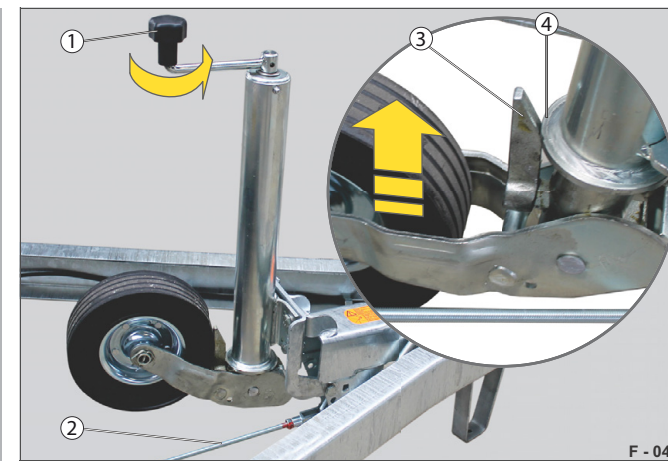

Fig. 16 Position for driving
- Crank the automatic jockey wheel up. Make sure that the brake linkage (Fig. 16 /2) is not blocked. The automatic jockey wheel is pointing towards the cargo bed (see Fig. 16). The locking slide (Fig. 16 /3) slides onto the end stop (Fig. 16 /4). The jockey wheel automatically stops in driving position.